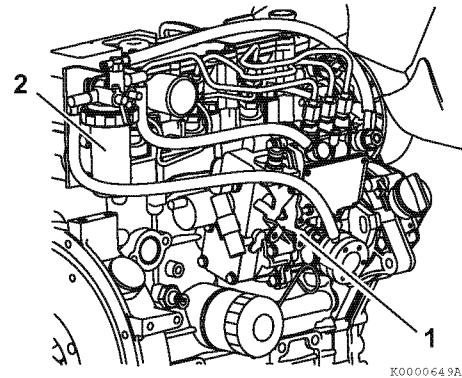

Figure 2
1. Operate the fuel priming lever (1, Figure 2) several times until the fuel filter cup (2, Figure 2) is filled with fuel.